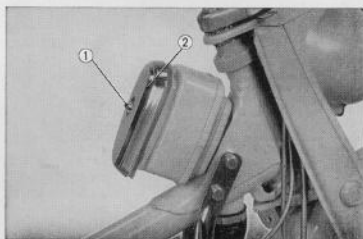

Fig. 4.70 Removing air cleaner (C 90, CT 90)
- ① Air cleaner cover
- ② Air cleaner case
- ③ Attaching screw
Unscrew the cap nut ①, remove the cover ② and pull out the cleaner element. (Fig. 4.70)